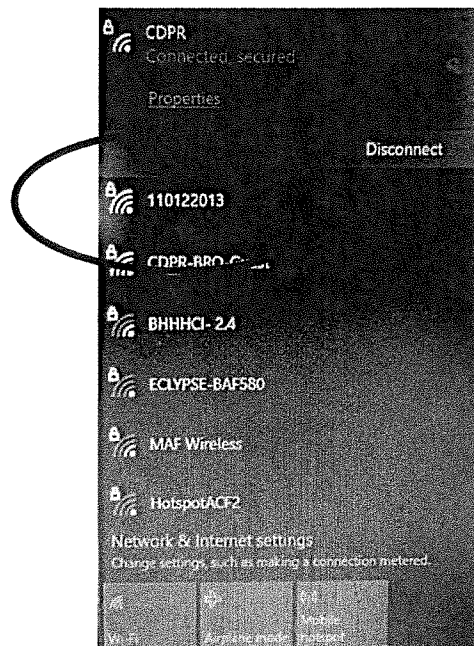

Figure 9: Wi-Fi connection for the Nutech 2703 controller.
- A wireless connection must be made between your laptop and the Nutech 2703 controller. The Nutech 2703 controller has a built-in Wi-Fi router. On your laptop, search among Wi-Fi sources for the Nutech 2703 Wi-Fi connection. The connection name will be the serial number of the Nutech 2703 controller (available on the open cover of the device e.g., “N2703-00XX” or a serial number such as “110122013”). Connect to the Nutech 2703 Wi-Fi (Figure 9). The required password is N2703888. All Nutech 2703 controllers have the same password.